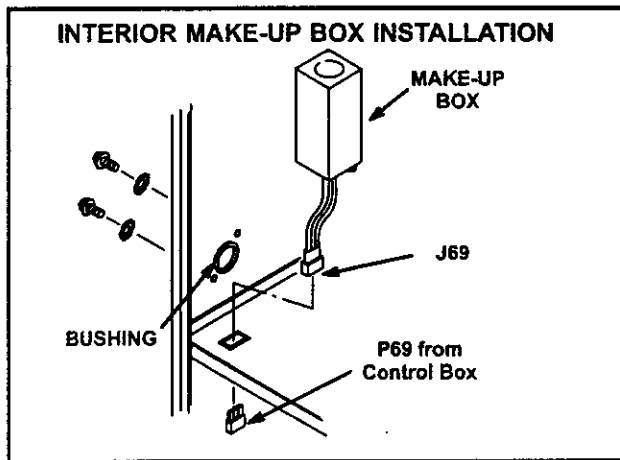

FIGURE 26
A field make-up box is provided for line voltage wiring. Line voltage wiring to unit is done through the J69 jack from the field make-up box to plug P69 from the control box. See figures 26 and 27 for make-up box installation.
- 1 - Install field make-up box on either side, inside or out of the cabinet. Knockouts are provided in box and cabinet to run wiring. See figures 26 and 27.